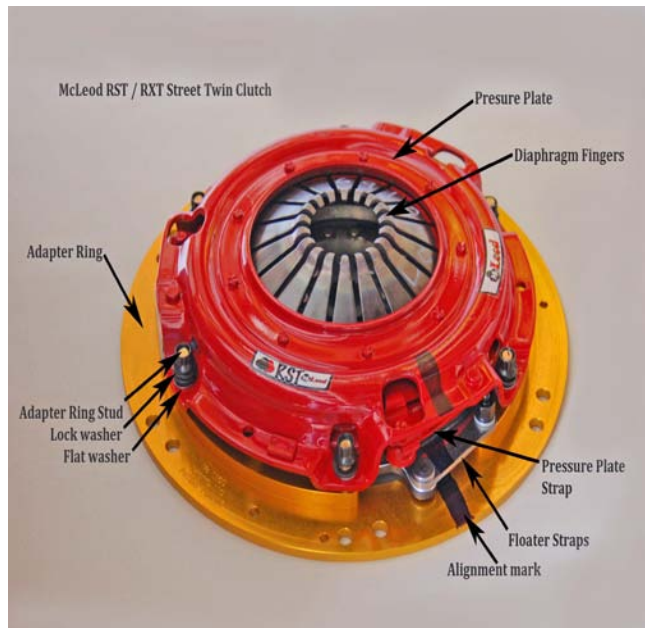

Figure 1
- 1) See Figure 1 for component parts identification and **alignment mark!**